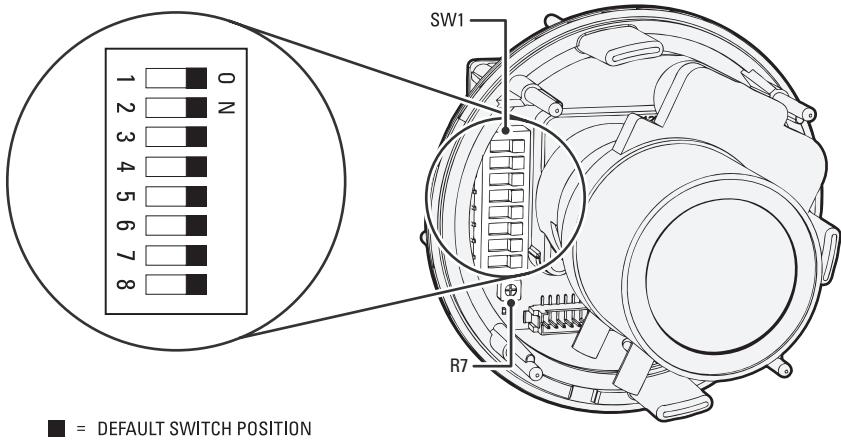
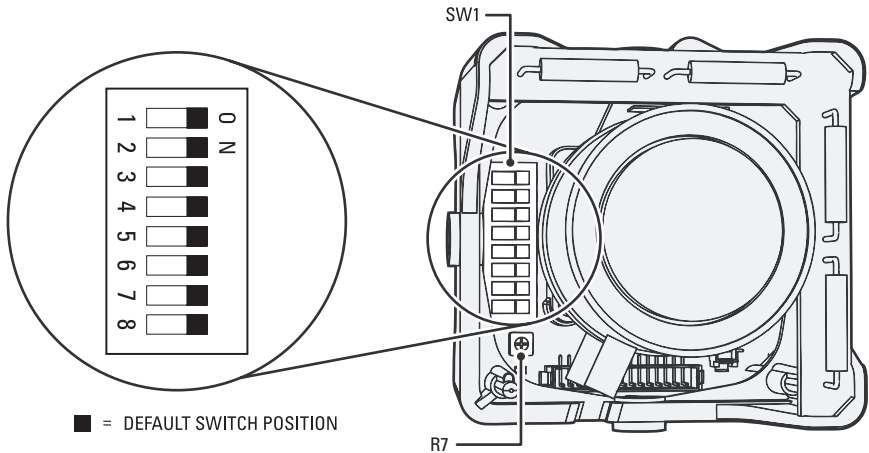

Figure 4. Adjusting an IS90-DW/CW Series Camclosure
Figure 5. Adjusting an IS110-DW/CW or IS150-DW/CW Series Camclosure
Refer to Figure 4 to adjust IS90-DW/CW models. Refer to Figure 5 to adjust IS110-DW/CW or IS150-DW/CW models.
2. Select the camera to synchronize. Use the phase adjustment control (R7) to synchronize the camera to the reference camera (refer to Figure 4 or Figure 5 on page 7). Turn R7 clockwise to increase vertical phase; turn R7 counterclockwise to decrease vertical phase.